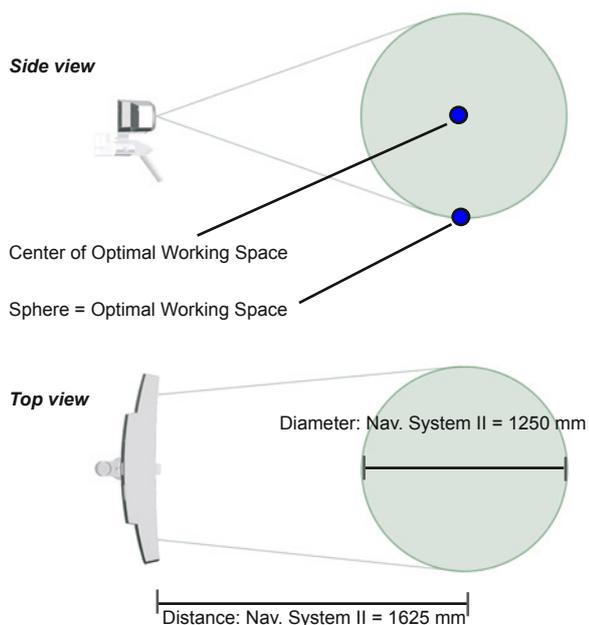

Figure 1: Navigation System Camera Working Space
- Ensure that navigated instruments are visible to the system. If an instrument is not visible after initialization, the software displays this instrument status with a red icon. Align the instrument to the Navigation System Camera within the system's working space (see *figure 1*), otherwise the navigation accuracy may be compromised.
The optimal working space of the Navigation System Camera is depicted in figure 1. Failing to operate the instruments within the optimal working space will result in compromised system accuracy. Use the software's Setup Mode to ensure optimal positioning of the Navigation System Camera. For detailed dimensions, also *refer to the Navigation System Camera's Instructions for Use.*